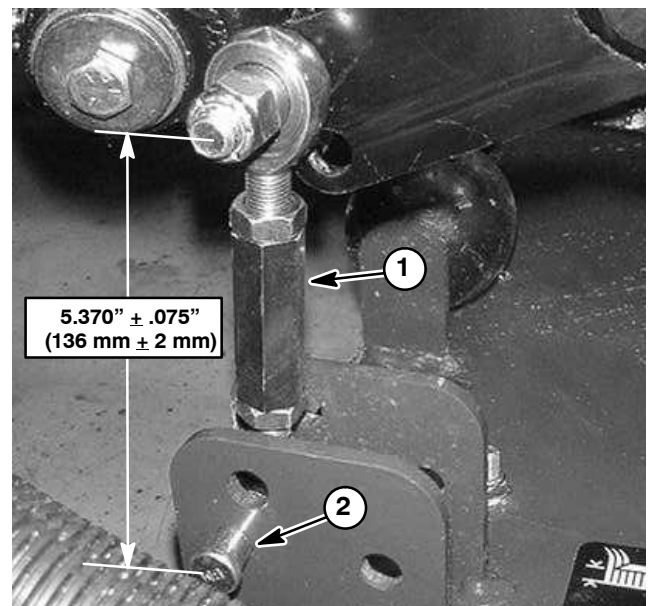

Figure 7
3. Remove hairpin and clevis pin that secure the damper link to the rear of the cutting deck (Fig. 7).
5. Install clevis pin and hairpin that secure the damper link to the rear of the cutting deck (Fig. 7).